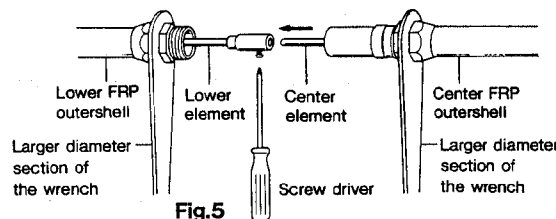

Fig.5
- 5) Connect center element in the center FRP outershell and lower element in the lower FRP outershell the same way as section 2) and 3). But do not pull out the lower element as it is fixed firmly. Use the larger section of the wrenches at this time as shown in the Fig.5.